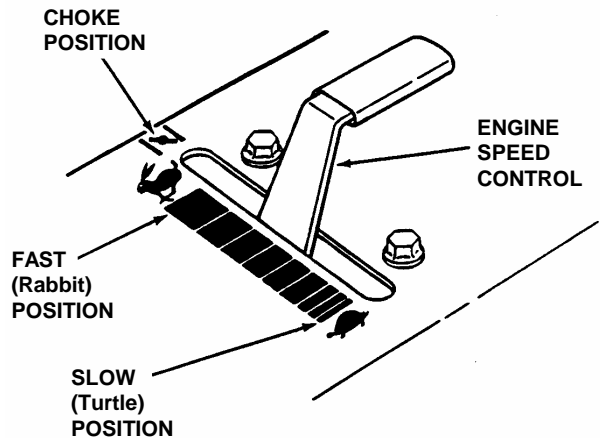

FIGURE 3.4
5. Move Engine Speed Control to "FAST/CHOKE" position, if so equipped. See Figure 3.4.
2. Move Engine Speed Control to the FAST (Rabbit) position. See Figure 3.4.